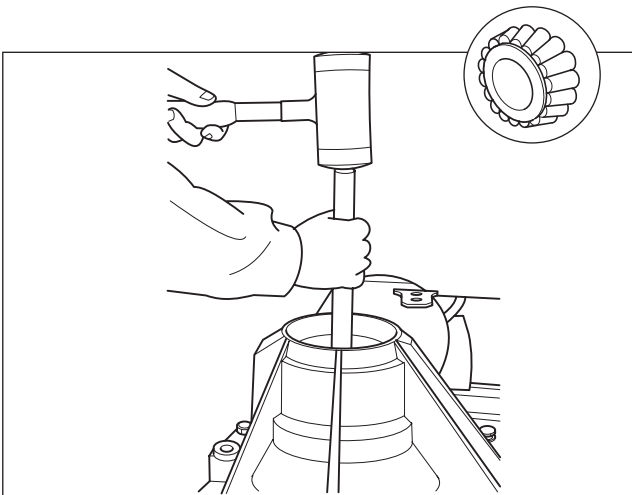

Fig. 2.27
27. Turn carrier over and using service tool CT19 remove inner bearing cup. (Fig. 2.27)